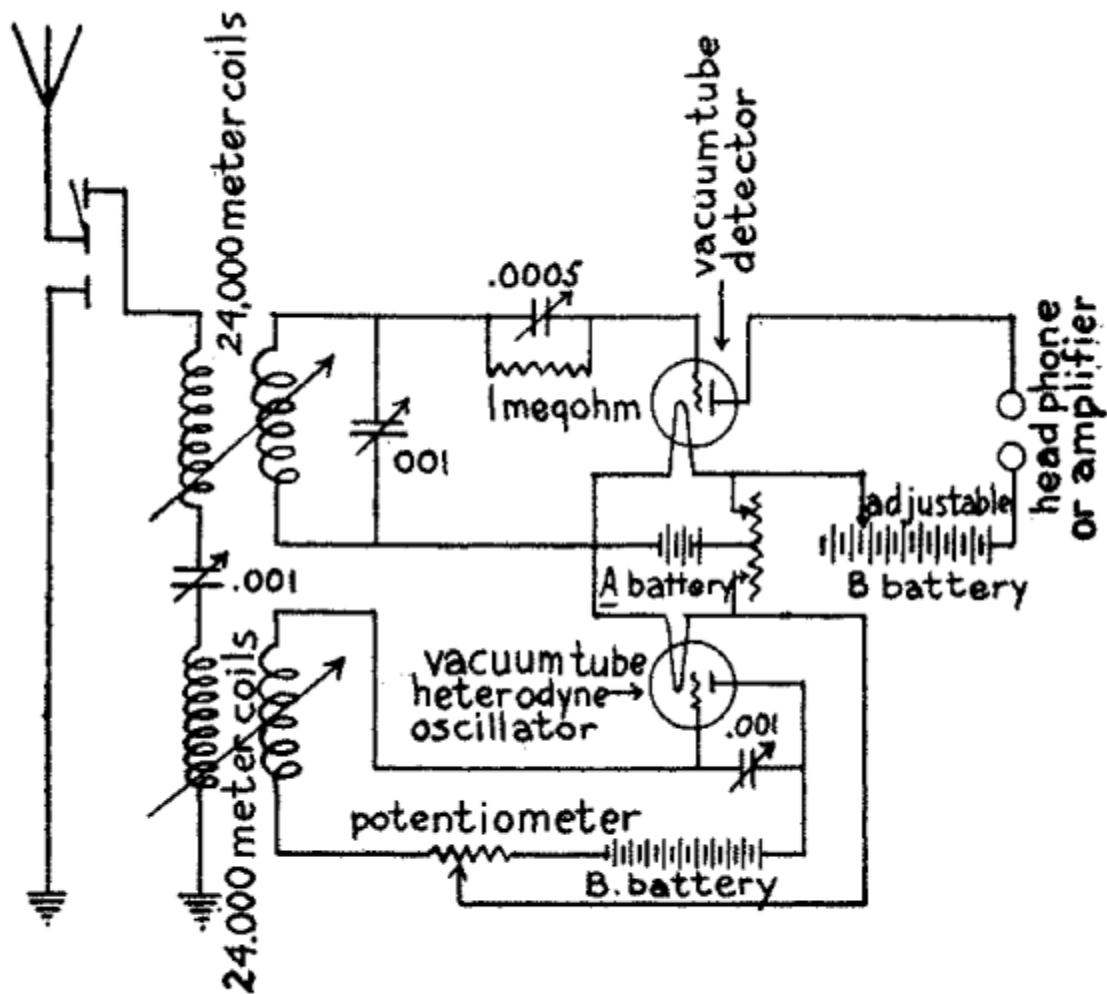

FIG. 61.—Wiring Diagram of Long Wave Separate Heterodyne Receiving Set.
The Parts and Connections of a Separate Heterodyne Long Wave Receiving Set.--The parts required for this long wave receiving set are: (1) four honeycomb or other good *compact inductance* coils of the longest wave length that you want to receive; (2) three *.001 mfd. variable condensers*; (3) one *.0005 mfd. variable condenser*; (4) one *1 megohm grid leak resistance*; (5) one *vacuum tube detector*; (6) one *A battery*; (7) two *rheostats*; (8) two *B batteries*, one of which is supplied with taps; (9) one *potentiometer*; (10) one *vacuum tube amplifier*, for setting up the heterodyne oscillations; (11) a pair of *headphones* and (12) all of the parts for a *two-step amplifier* as detailed in Chapter IX, that is if you are going to use amplifiers. The connections are shown in *Fig. 61*.